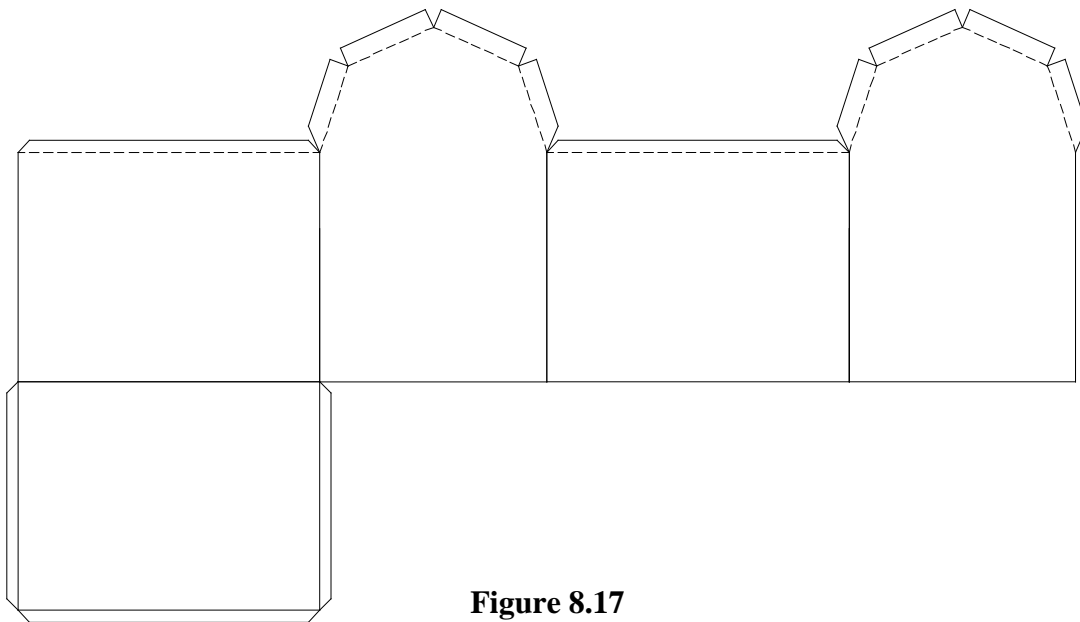

Figure 8.17
7. Measure each chord (all four should be equal) to give you your roof dimensions at each end. Remember, the length of the barn is 6". Lay out your roof design on poster-board, allowing a 1/2" overhang all around. See **Figure 8.17**.